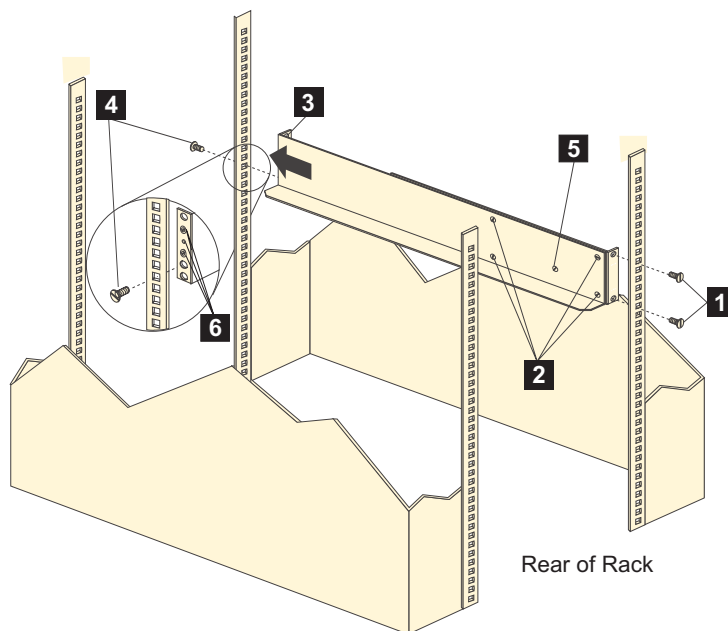

Figure 17. Installing the support rails
Note: Refer to Figure 17 on page 36 while performing these steps.
Note: The support rails are not marked as Left or Right. However, each rail can be correctly mounted on only one side of the rack cabinet. The rails should be mounted with the alignment pins at the front of the rack. Figure 17 shows the installation of the left support rail.
- d. From the back of the rack, insert the two 6/32 in. screws (**5** in Figure 17 on page 36), one on each side, in the holes on the side of the unit. Tighten the screws.